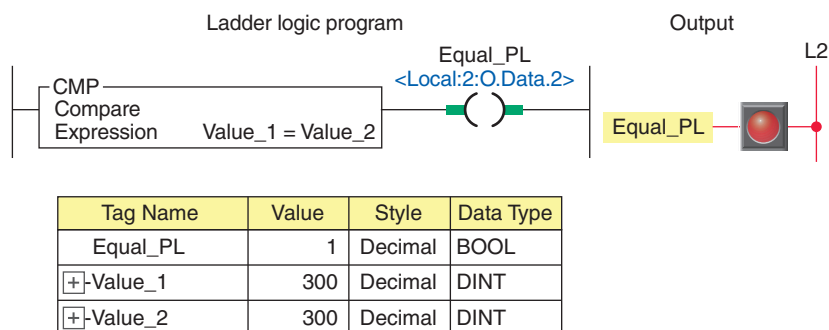

Figure 15-77 CMP instruction rung.
The *compare (CMP)* instruction performs a comparison on the arithmetic operations specified by the expression. The expression may contain arithmetic operators, comparison operators, and tags. The execution of a CMP instruction is slightly slower and uses more memory than the execution of the other comparison instructions. The advantage of the CMP instruction is that it allows you to enter complex expressions in one instruction. Figure 15-77 shows an example of a CMP instruction rung. In this example the comparison operator found in the expression is the equivalent of an EQU instruction. The comparison instruction is true because Value_1 (300) is equal to Value_2 (300).